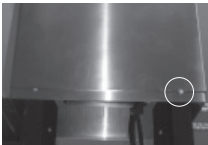

Fig. 3
- Push the lowest telescopic channel carefully over the uppermost telescopic channel in the highest position. Loosen two screws somewhat and allow the lowest telescopic channel to rest here (fig. 3).